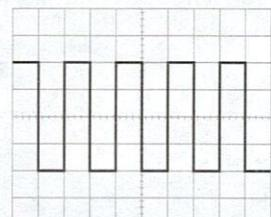

Figure 4-3
- 5) Set the AC-GND-DC switch to the AC state. A waveform as shown in the figure 4-3 will be displayed on the CRT screen.
- 8) Adjust the ▲ POSITION and ▶ POSITION controls in appropriate positions so that the displayed waveform is aligned with the graticule and voltage (Vp-p) and period (T) can be read conveniently.